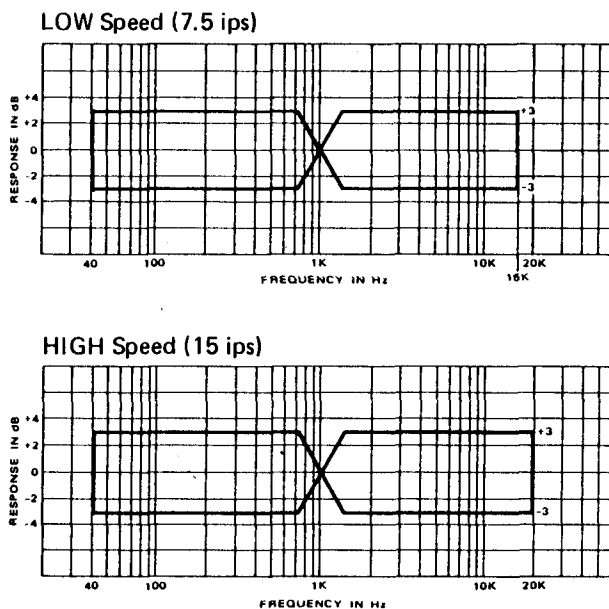

FIG. 29. REPRODUCE FREQUENCY RESPONSE
3. Measure the output signal and check that the frequency range is within the limits shown in Fig. 29. If necessary, adjust the following pots on the R/P AMPL PCBs: